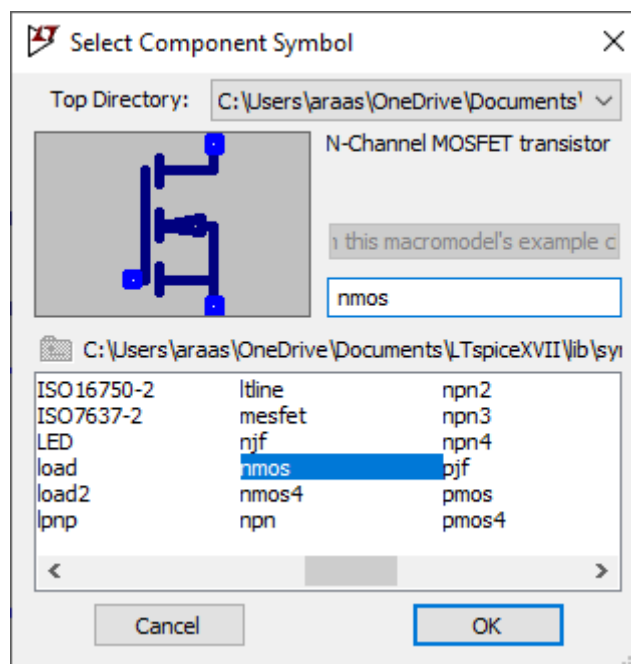

Fig. 1. NMOS transistor
1. Search for **nmos** (N-channel MOSFET) as in Fig. 1.